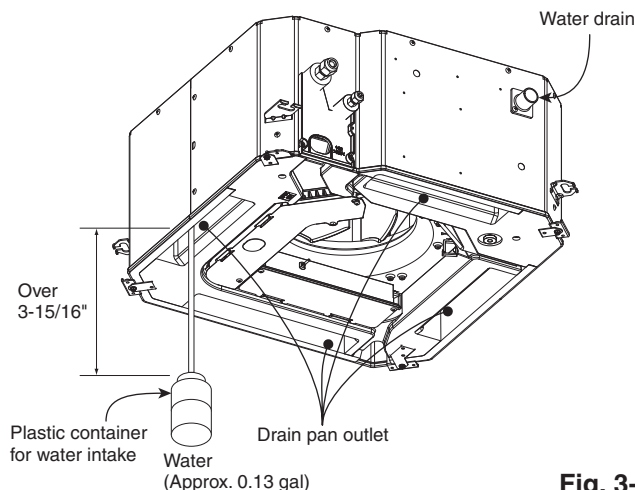

Fig. 3-37
- (1) Connect power to the power terminal board (R, S terminals) inside the electrical component box.
- (2) Slowly pour approx. 0.13 gal of water into the drain pan to check drainage. (Fig. 3-37)
- (3) Short the check pin (CHK) on the indoor control board and operate the drain pump. Check the water flow through the transparent drain pipe and see if there is any leakage.
- (4) When the check of drainage is complete, open the check pin (CHK) and remount the tube cover.